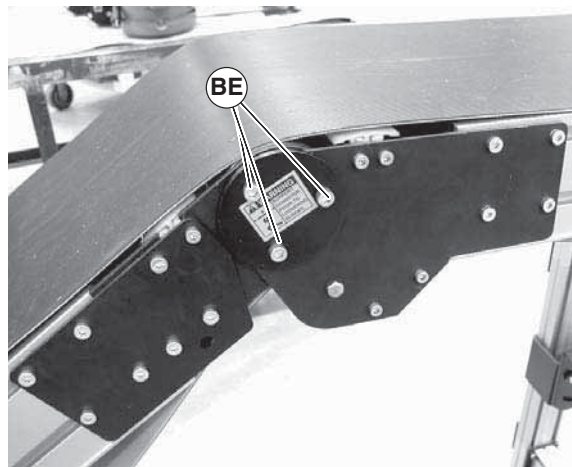

Figure 41
2. Loosen screws (Figure 41, item BE) on both sides of knuckle.
4. Tighten screws (Figure 41, item BE) on both sides of knuckle to 100 in-lbs (12 N-m).